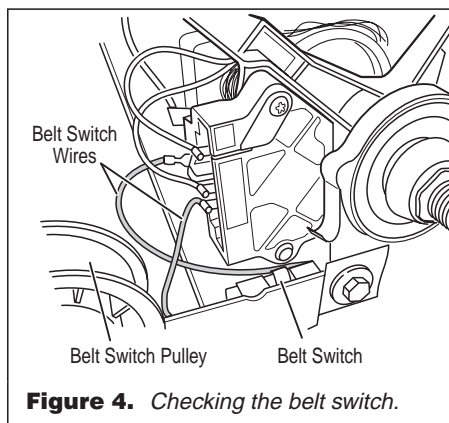

Figure 4. Checking the belt switch.
4. Check the belt switch by measuring resistance between the belt switch wires, as shown in figure 4, while pushing up the belt switch pulley.